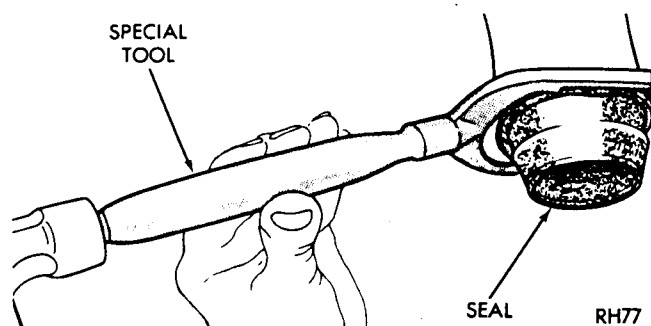

Fig. 5—Remove Extension Housing Yoke Seal
(1) Remove oil seal with Tool C-3985 (Fig. 5).